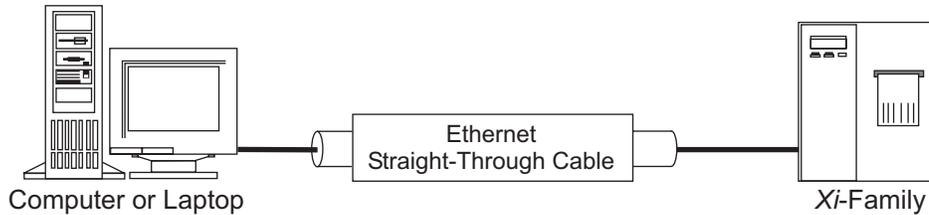

Figure 6-26. Straight-Through Cable Environment
- If you are connecting your printer to a computer or laptop, complete the callout illustration step in Figure 6-26 below.